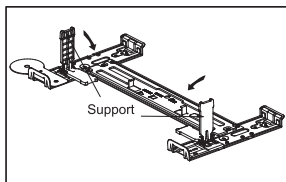
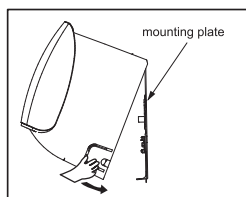

Fig. 18
Fig. 19
7) Close the two supports on the wall mounting plate as shown in Fig. 18. Then move the unit step by step to reach the best installation, then press the unit into 2 down slots (Fig.19).